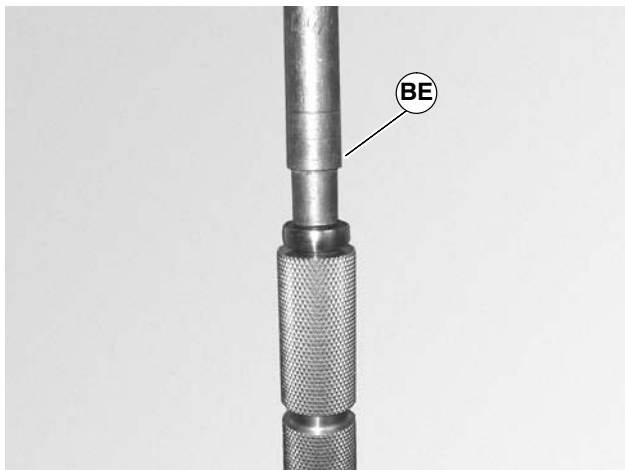

Figure 38
2. Use a bearing installation tool, (BE of Figure 38), part number 450292 or equivalent and press bearings onto the pulley and drive pulley.